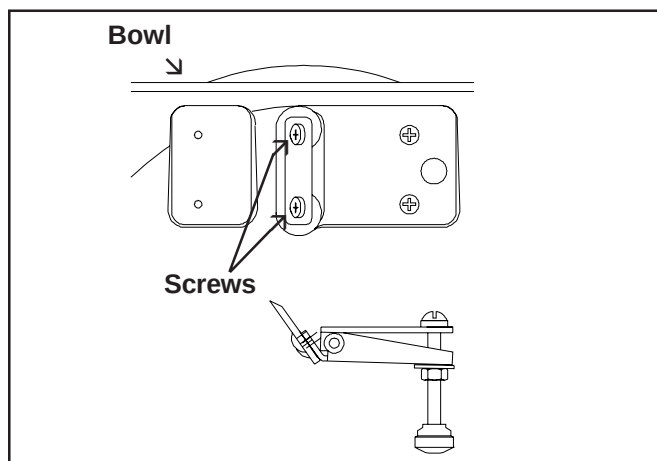

Fig. 14 - Shaver Blade
4. Remove the two screws holding the blade to the bracket. (Fig. 14)